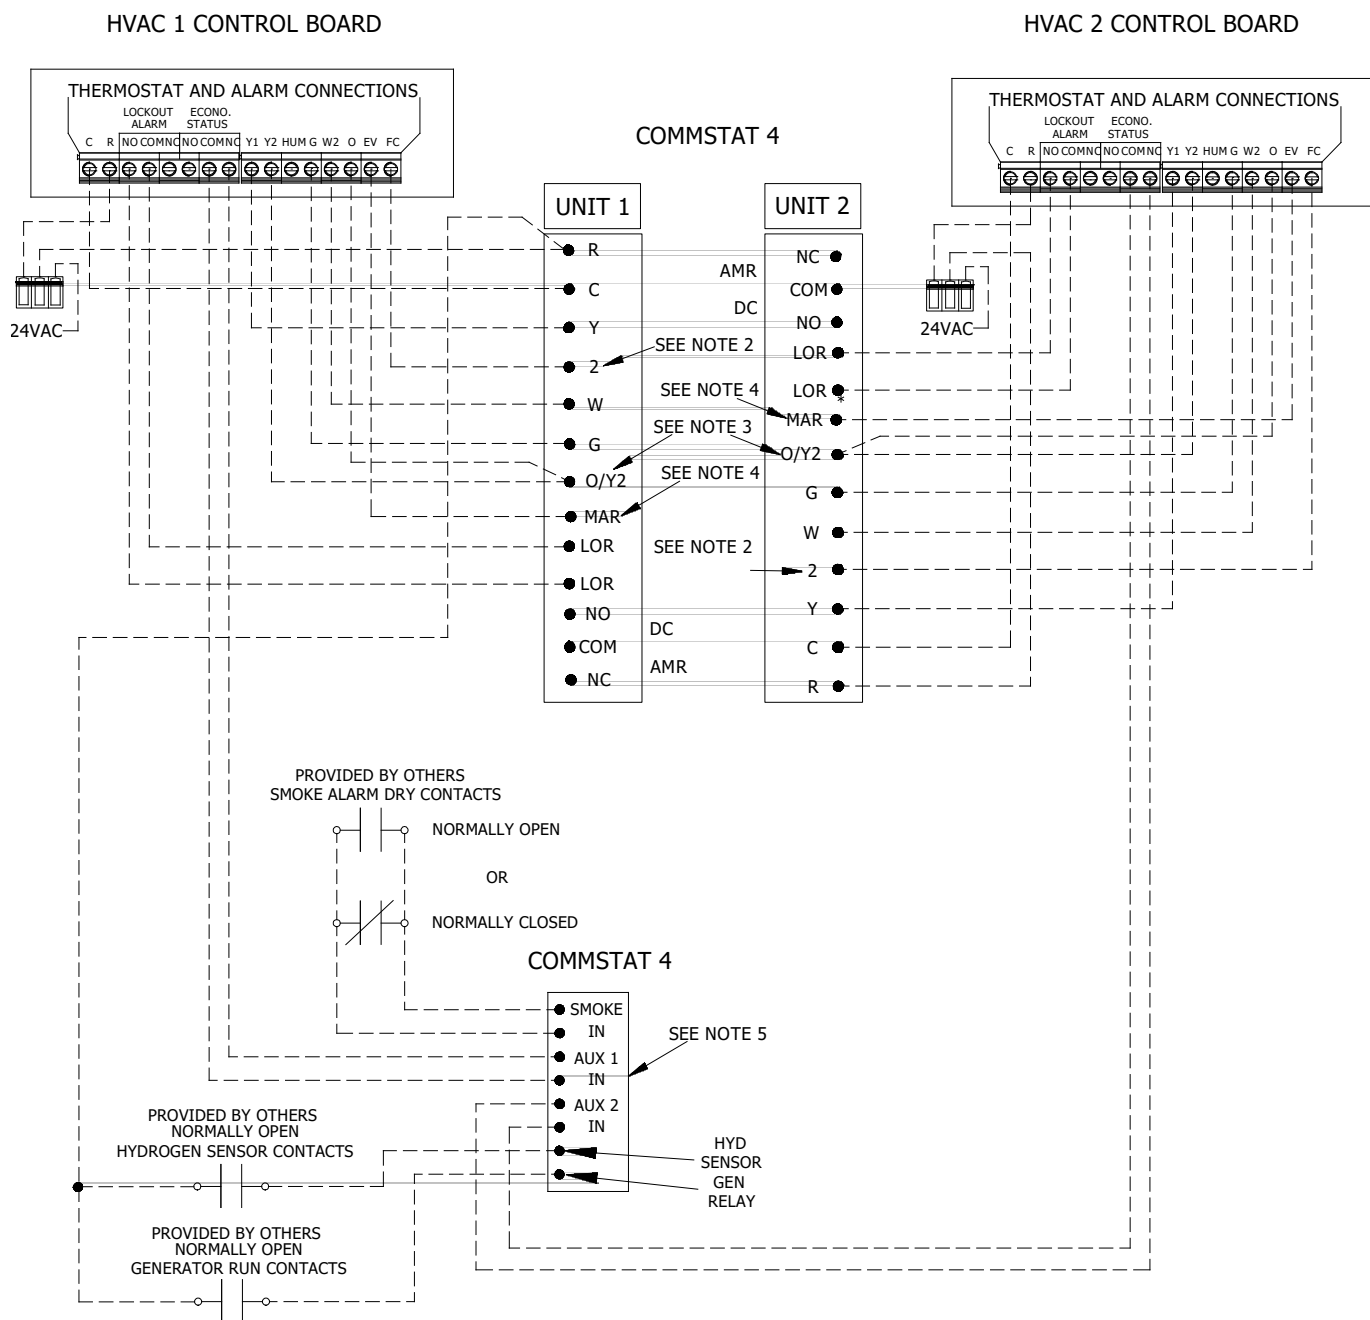

Figure 6c. CommStat 4 Wiring Diagram
3. On dual units, refer to the *CommStat 4 HVAC Controller Specification sheet*. Level and install the controller subbase. Wire the two A/C units to the Lead/Lag Controller, according to the wiring diagram on the specification sheet and as shown in Figure 6c for the CommStat 4 (note: the diagram also appears on the back cover of the controller).